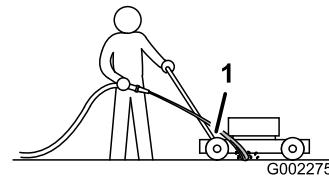

Figure 38
3. Hold the running garden hose at handle level and direct the water to flow on the ground just in front of the **right** rear tire (Figure 38).